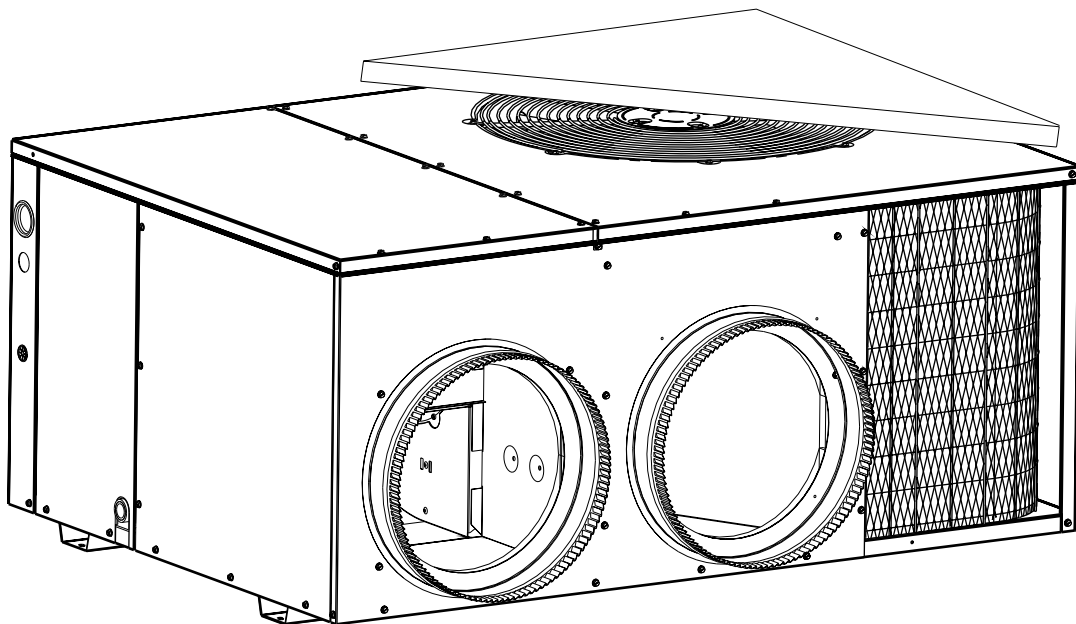

Figure 9. Q7RE With Fan Discharge Blocked Off
1. Block off the discharge of the outdoor fan. **NOTE:** One half of the unit should be covered corner to corner as shown in Figure 9.
3. Measure the outdoor dry bulb temperature (F) and indoor wet bulb temperature (F).